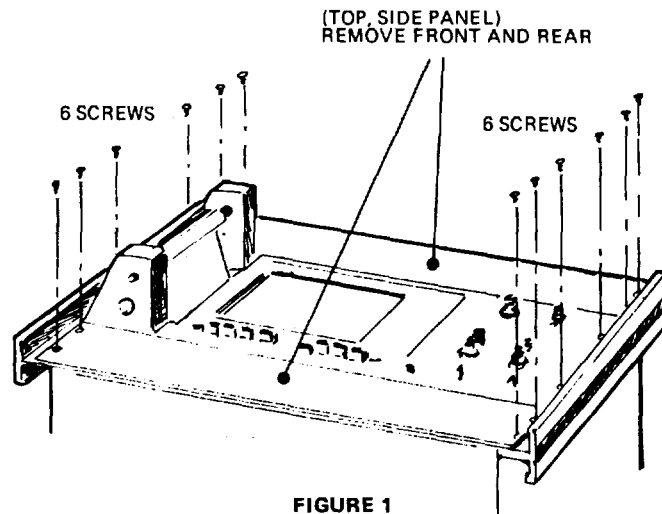

FIGURE 1
- b. Remove six (6) screws from each side of the top of the cart. See Figure 1. These screws secure the recorder front panel and the two (2) side top panels (or trays) to the top of the cart.